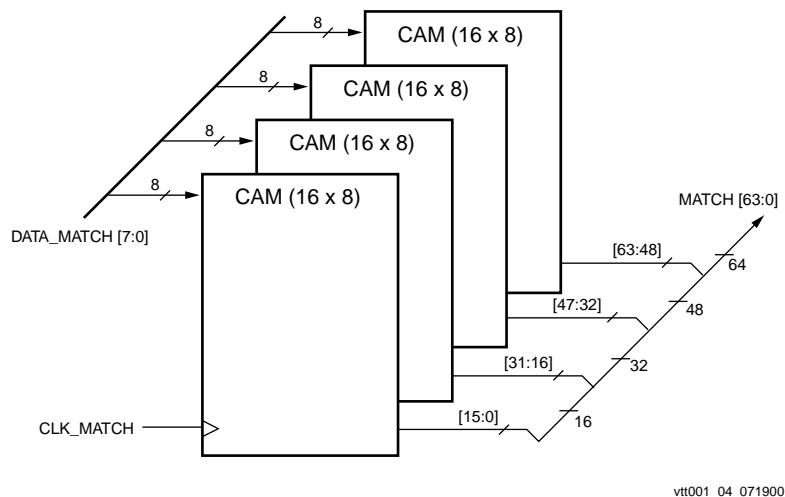

Figure 6: 64-word x 8-bit CAM Implementation in Block RAM
**Figure 6** provides an illustration of a cascadable CAM implementation using block RAM. Several 16 x 8 block RAM elements can be linked together to implement a deeper CAM. The outputs of the different 16 x 8 block RAM elements are merged as the global decoded address. A 64 x 8 CAM consists of four 16 x 8 block RAM elements, with a 64-bit decoded address. The first 16 x 8 block RAM element corresponds to the LSB (position 0 to 15) of the 64-bit CAM. The second 16 x 8 block RAM element corresponds to the next 16-bit (position 16 to 31), and so on.